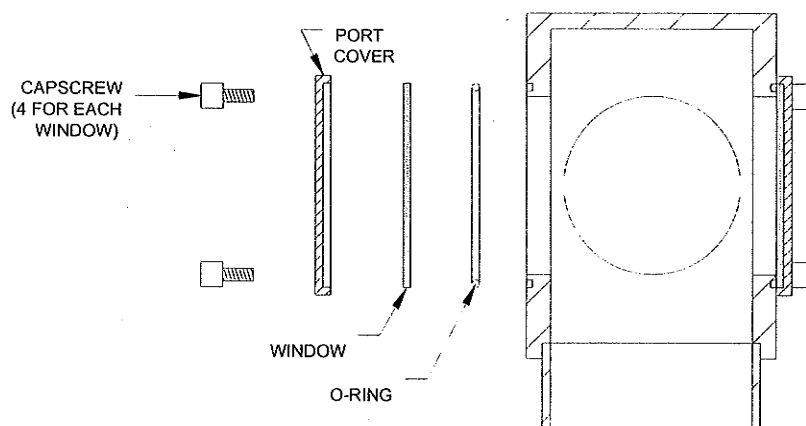

Figure 20 Repair Removable Window
1. Remove the mounting screws and separate the components. See Figure 20.